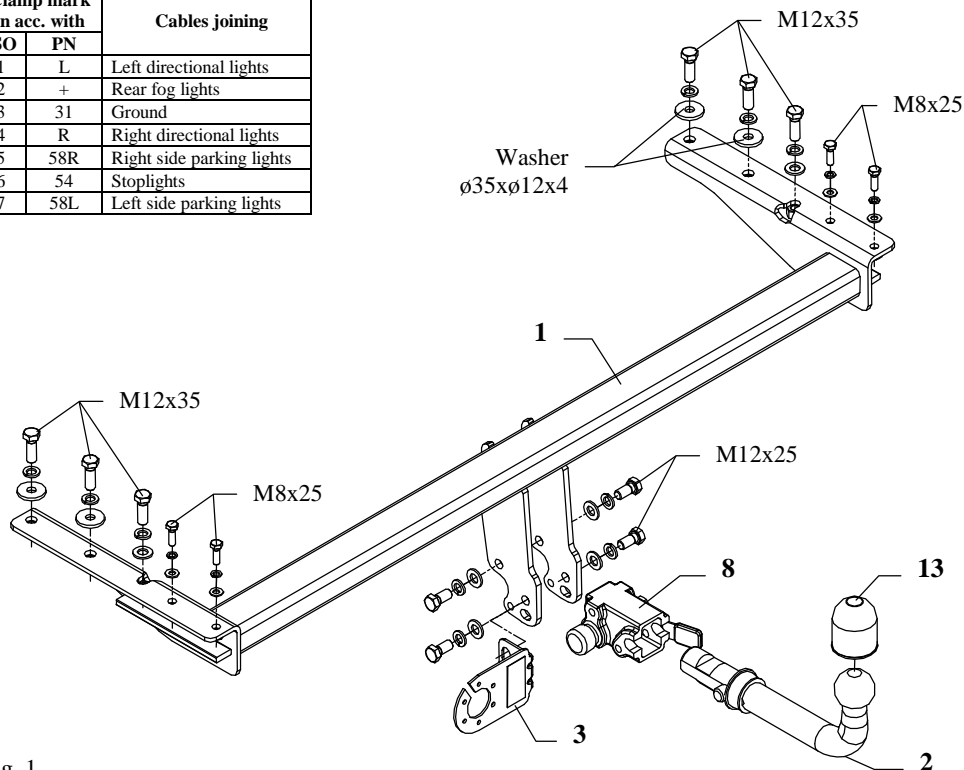
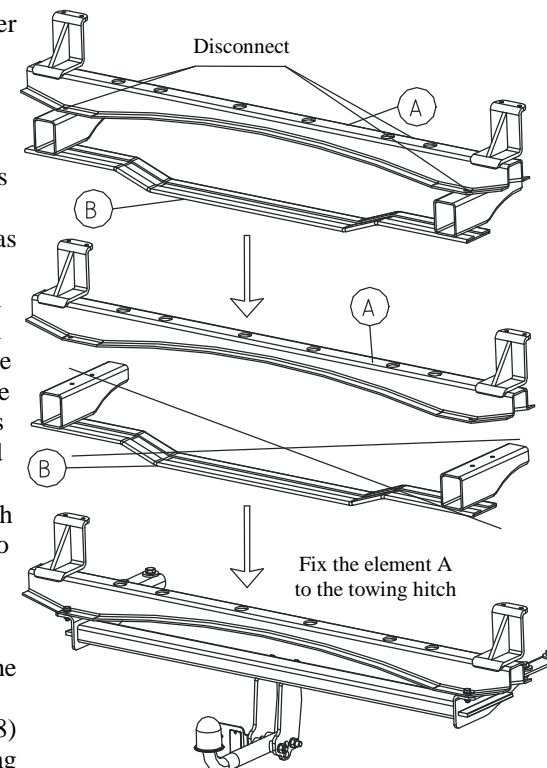

Fig. 1
Fig. 2
- Disconnect the metal fulfilment as showed on the fig. 2.
- Element B (see fig. 2) not used anymore, whereas element A (see fig. 2) one ought to fix to the main bar of the towing hitch (see fig. 1, pos. 1) using bolts M8x25mm (pos. 6) as showed on the fig. 2.
- So prepared towing hitch fix with the bumper, which one ought to slip into chassis members, then fix using bolts M12x35mm (pos. 5) as showed on the fig.
- Fix body of the automat (pos. 8) and the socket plate (pos. 3) using bolts M12x25mm (pos. 4) from accessories. Place tow-ball (pos. 2) according to supplied instruction.